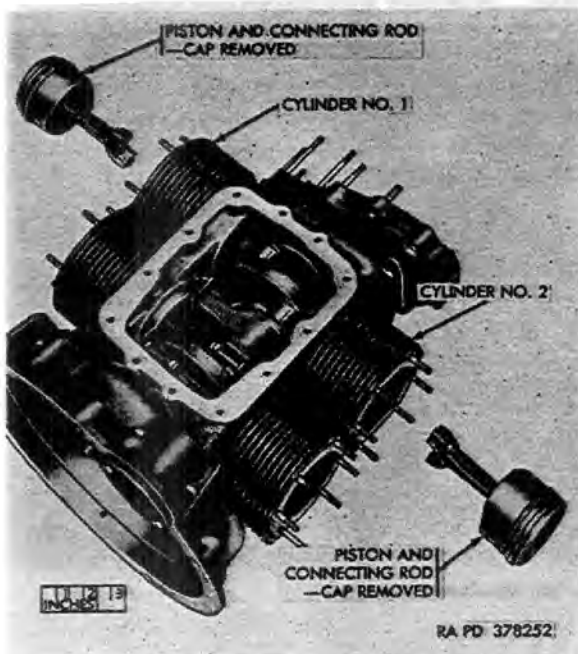

Figure 25. Removal of pistons and connecting rods from cylinders No. 1 and 2.
a. Rotate crankshaft, as required, for access to connecting-rod caps and bolts. Remove jamnuts and hex nuts from bolts attaching caps to connecting rods (fig. 42) for cylinders numbered 1 and 2 (fig. 25). Rotate crankshaft approximately 180° and remove caps, bearings, and bolts from crankshaft. Remove pistons and connecting rods from cylinders numbered 1 and 2. Assemble bearings and caps to connecting rods (fig. 41). Keep original assemblies together.